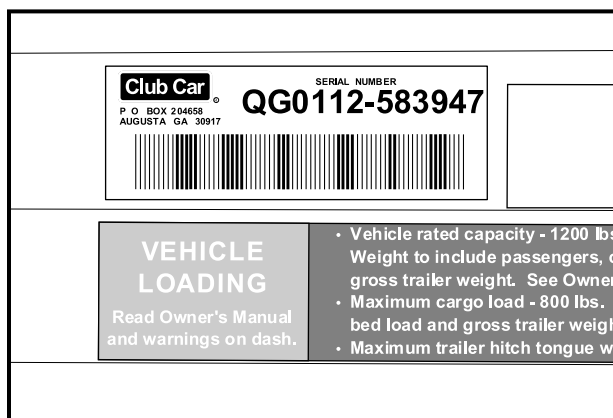

Figure 2 Serial Number
The serial number of each Club Car vehicle is printed on a bar code decal mounted on the frame directly above the accelerator pedal (Example: QG0112-583947) (**Figure 2, Page 11**). There is also a second serial number decal mounted on the front body frame behind the dash panel. The dash panel must be removed to access it. **See following NOTE.**
- ALWAYS HAVE THE VEHICLE SERIAL NUMBER AT HAND WHEN ORDERING PARTS OR MAKING INQUIRIES (**FIGURE 2, PAGE 11**).